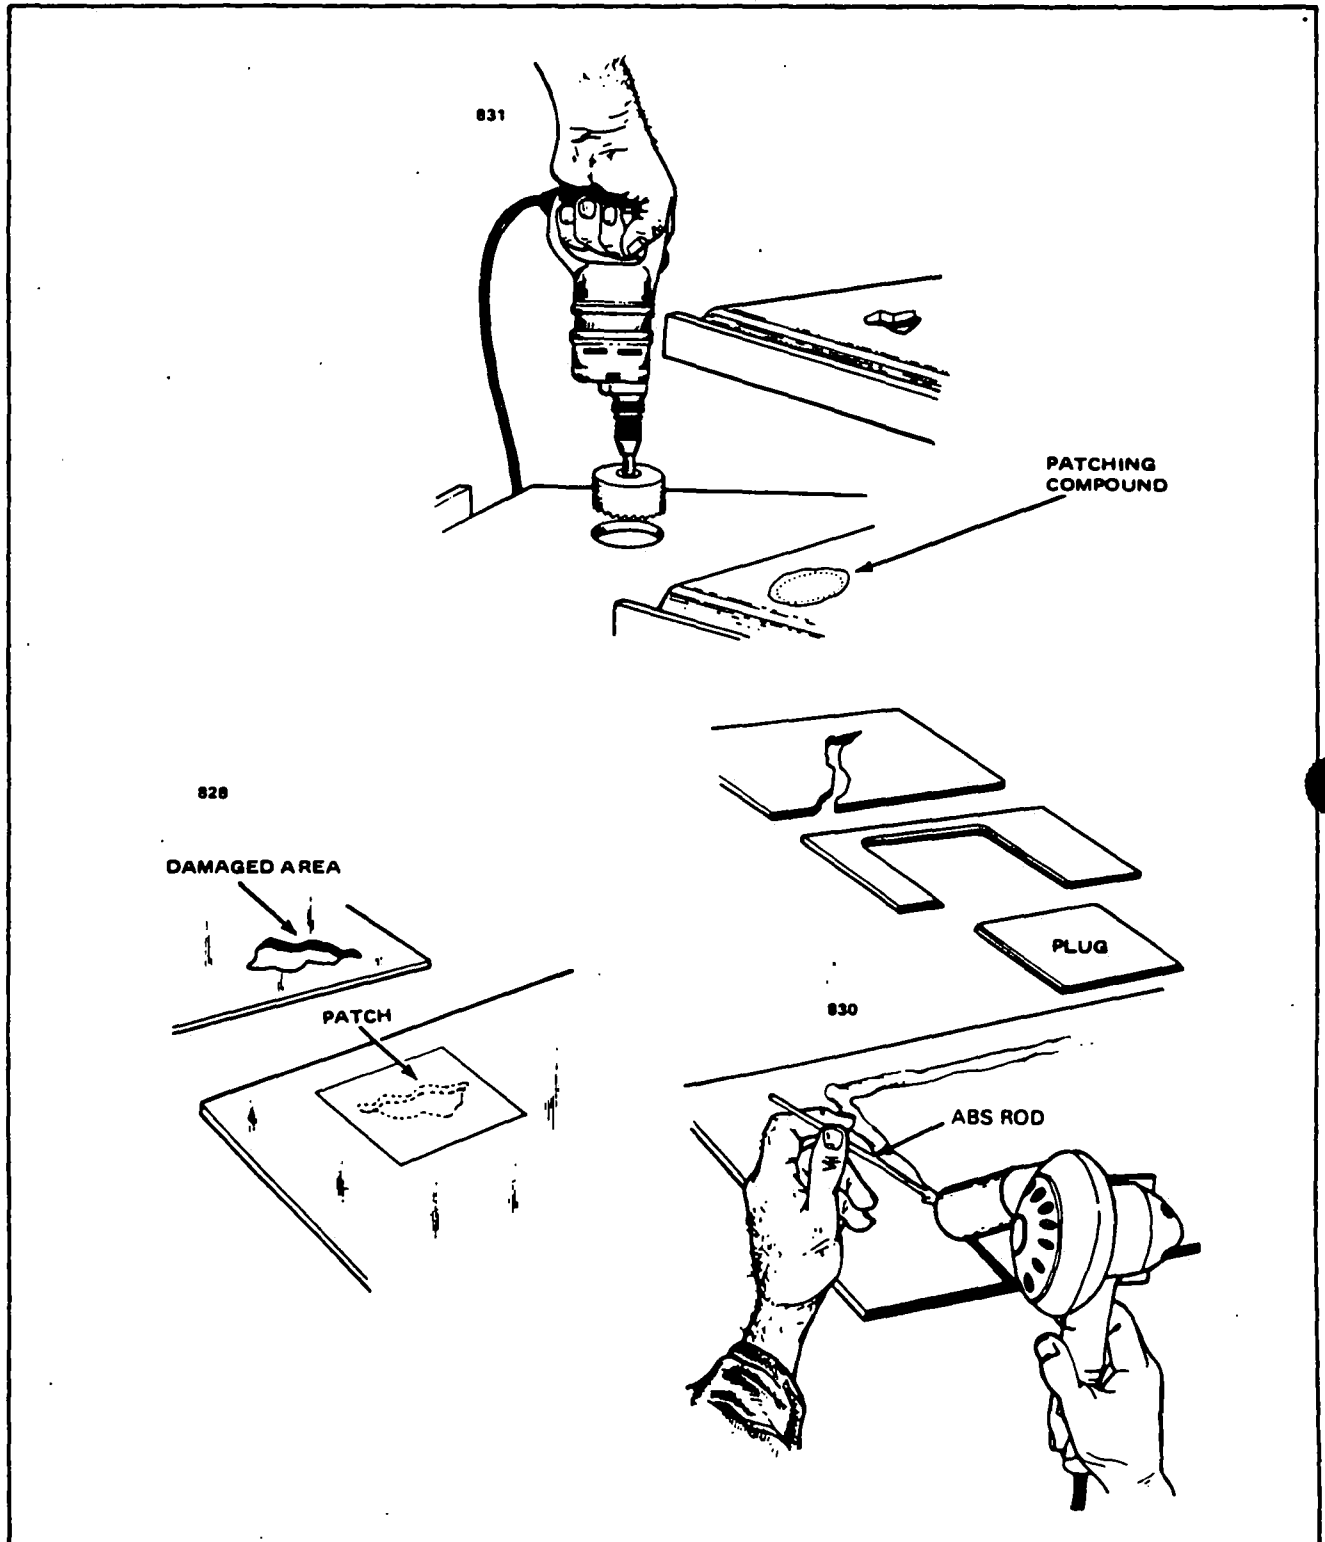

Figure 4-19. Various Repairs
- e. Repairing Major Damage: (Larger than 1 inch in diameter.) (Refer to Figure 4-19.)